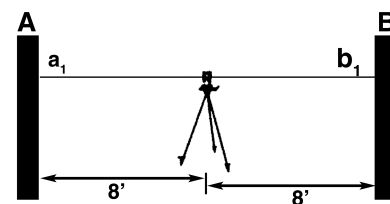

Figure 4
3. Press both the horizontal and vertical buttons to project a laser cross on wall A. Mark point a_1 at the intersection of the beams. Turn the cross line laser 180° and repeat on wall B, marking point b_1 at the intersection of the beams, see Figure 4.